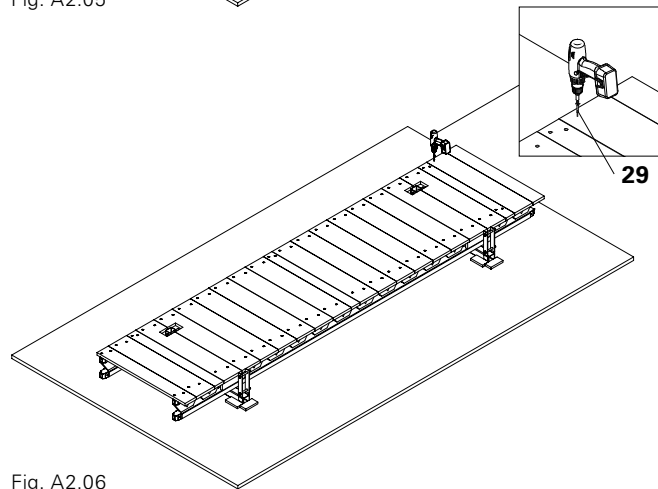

Fig. A2.06
4. Fix remaining planking. (Fig. A2.06)